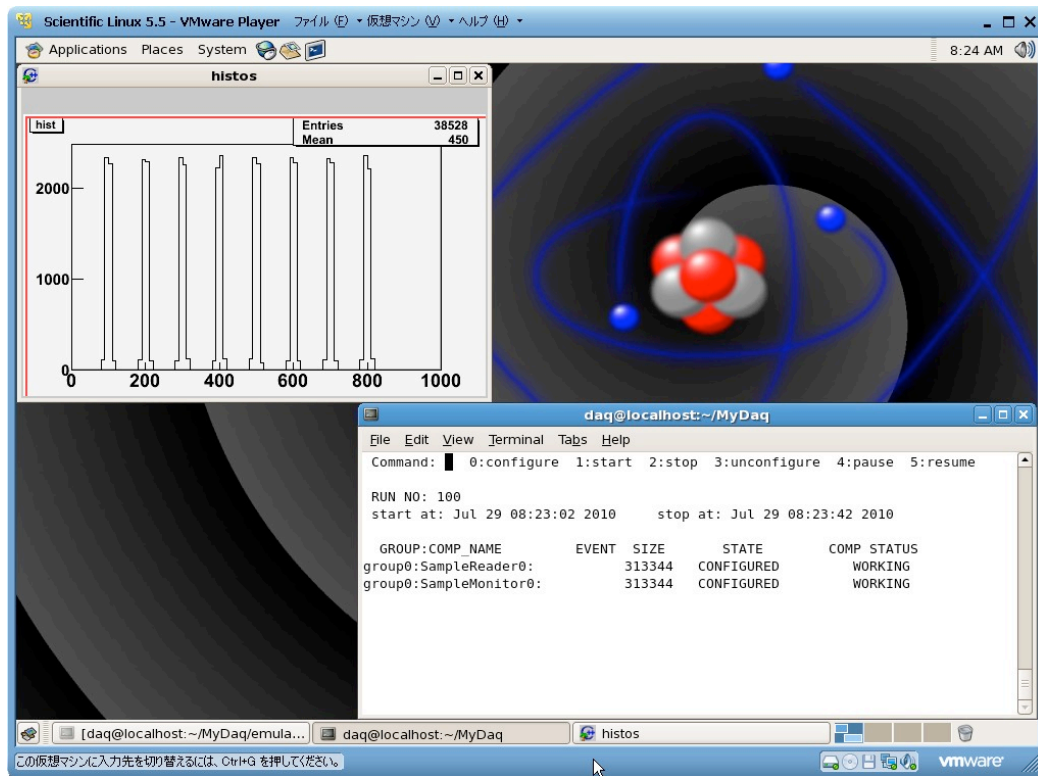

Fig. 9 The screen of data collection terminated. The terminal that has launched the emulator is minimized and contained in the bottom panel.
Next, with pressing 1, it asks you the run number. So, input any proper number e.g. 1. Now, the 'DaqComponent' commands 'start' to 'SampleReader' and 'SampleMonitor'. 'DaqOperator' displays on the screen the number of processed data bytes reported by each component, and updates it every few seconds. Here, with the value (30) of the 'm_monitor_update_rate' given in this code, the histogram is updated every 4 seconds. To terminate the components, press 2 to transit each of them to the 'STOP' state. The screen state at this moment is shown in Fig. 9.